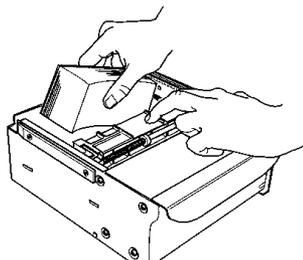

Figure 4-19. Loading note tray with currency.
1. Move the pusher plate to the rear of the tray (toward the handle). Ensure the pusher plate is fully back. Maintain pressure on the pusher plate as needed while loading notes (Figure 4-19).